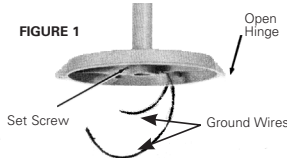

FIGURE 1
- Pendant, cone, stanchion mount: securely thread onto the appropriate NPT size conduit. Tighten set screw located in the conduit hub. See Figure 1.